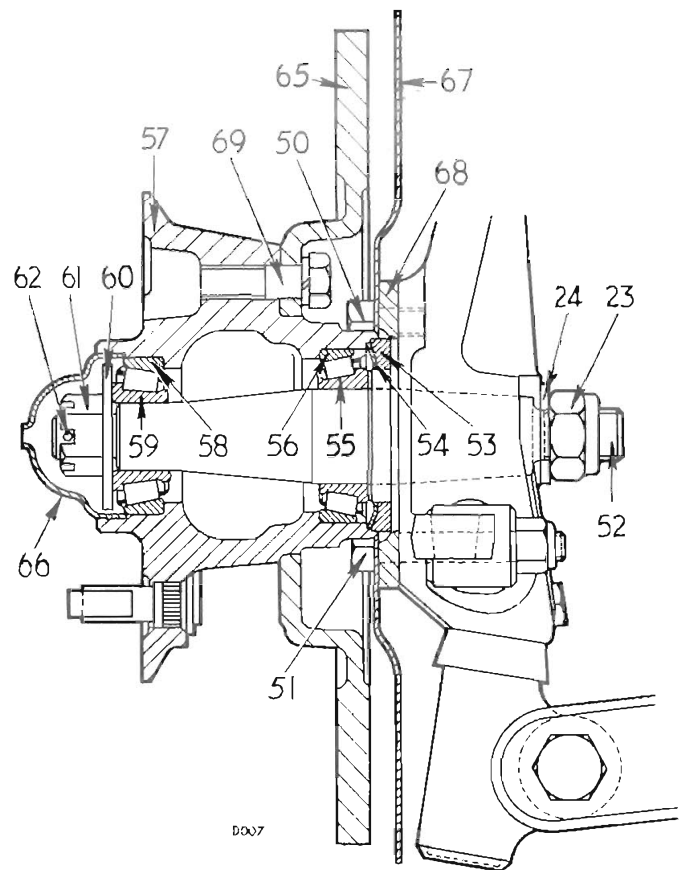

Fig. 37. Cross section of disc brake and hub assembly
1. Remove the outer roller bearing inner member (59) from the hub.
2. Using a soft metal drift, tap the inner roller bearing inner member (55) and felt seal assembly (53) and (54) from the hub (57).
3. Tap the outer rings (56) and (58) of the outer and inner roller bearings from the hub.
4. If necessary, remove the bolts (69), Fig. 37, and detach the disc (65) from the hub (57).